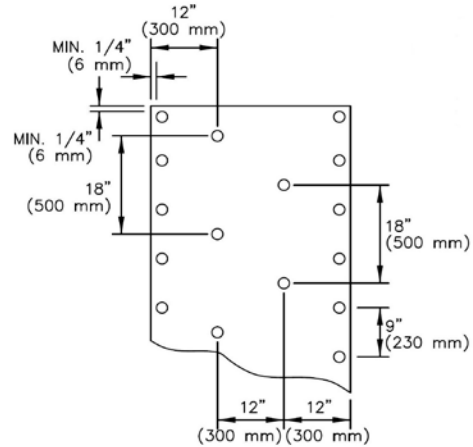

Figure 6
1. When no additional insulation is required, projects with new or existing lightweight insulating concrete substrates will require the use of a Carlisle supplied base sheet. Refer to Warranty Table II in this Specification for the appropriate base sheet to be utilized. Follow the fastening patterns in Figure 6.